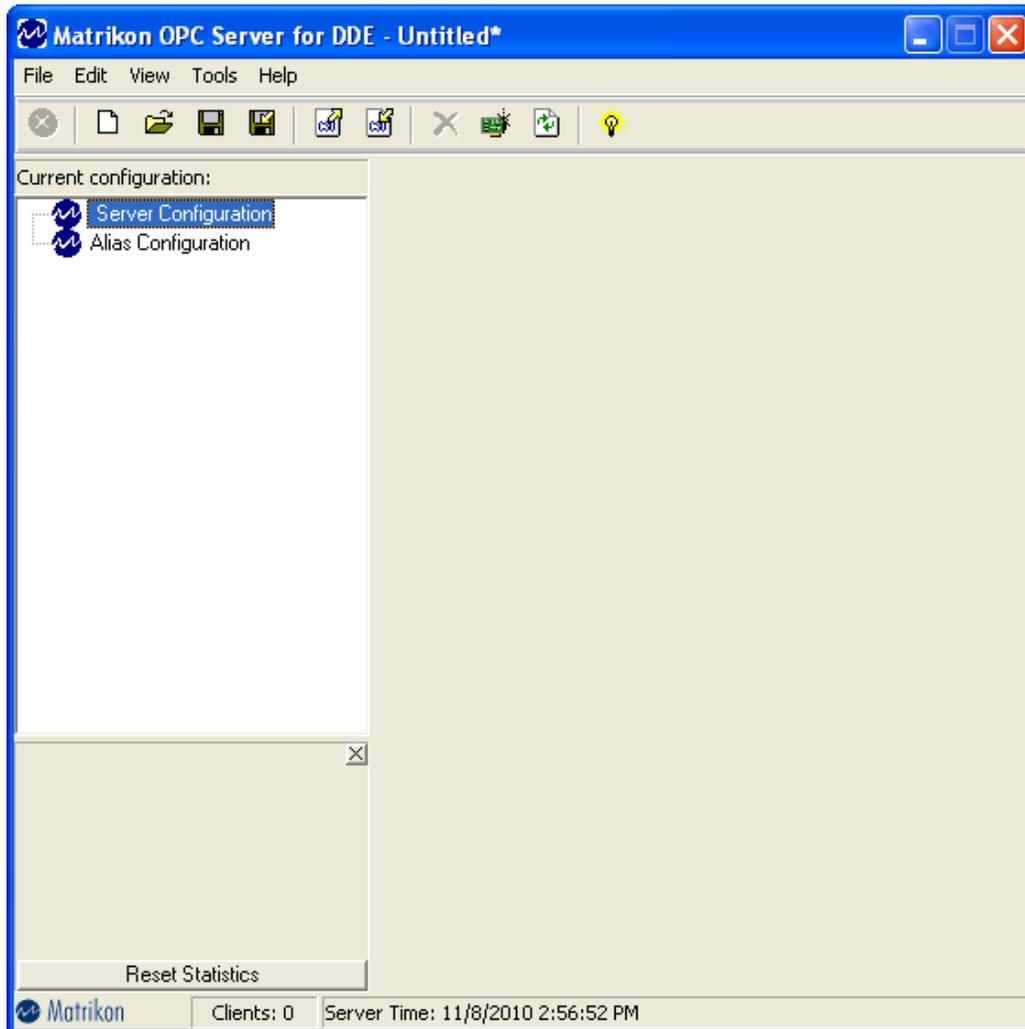

Figure 3 - MatrikonOPC Server for DDE Configuration Screen
2. The **MatrikonOPC Server for DDE** configuration screen (Figure 3) appears.